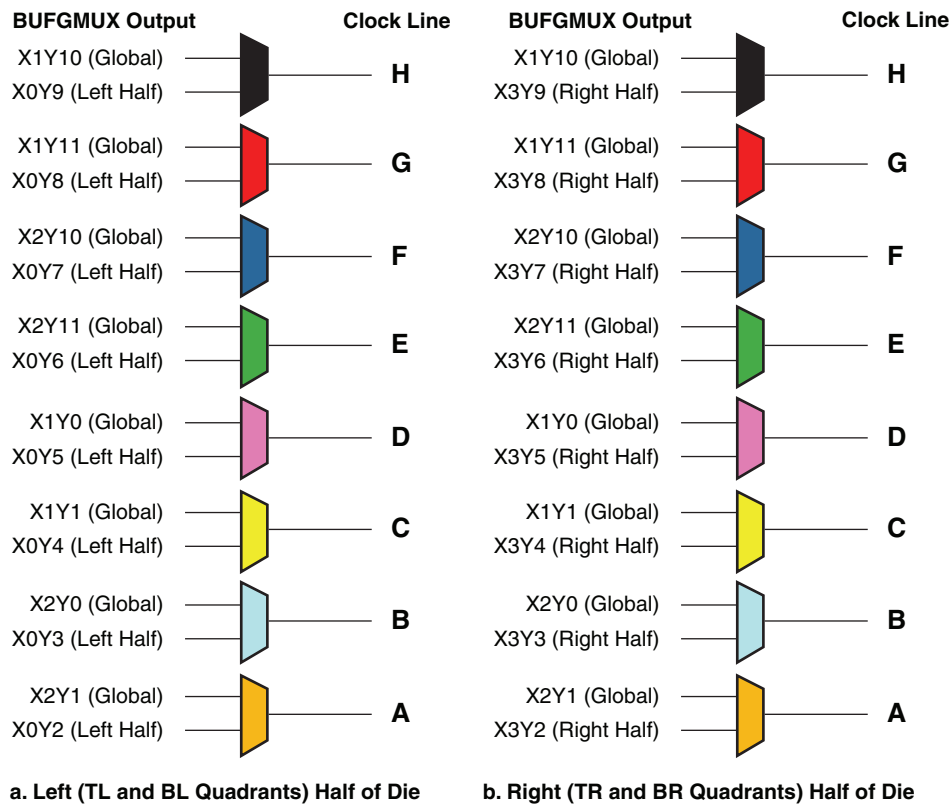

Figure 47: Clock Sources for the Eight Clock Lines within a Clock Quadrant
2. See Figure 45 for specific BUFGMUX locations, and Figure 47 for information on how BUFGMUX elements drive onto a specific clock line within a quadrant.
The clock routing within the FPGA is quadrant-based, as shown in Figure 45. Each clock quadrant supports eight total clock signals, labeled 'A' through 'H' in Table 41 and Figure 47. The clock source for an individual clock line originates either from a global BUFGMUX element along the top and bottom edges or from a BUFGMUX element along the associated edge, as shown in Figure 47. The clock lines feed the synchronous resource elements (CLBs, IOBs, block RAM, multipliers, and DCMs) within the quadrant.
Each of the eight clock signals in a clock quadrant derives either from a global clock signal or a half clock signal. In other words, there are up to 24 total potential clock inputs to the FPGA, eight of which can connect to clocked elements in a single clock quadrant. Figure 47 shows how the clock lines in each quadrant are selected from associated BUFGMUX sources. For example, if quadrant clock 'A' in the bottom left (BL) quadrant originates from BUFGMUX_X2Y1, then the clock signal from BUFGMUX_X0Y2 is unavailable in the bottom left quadrant. However, the top left (TL) quadrant clock 'A' can still solely use the output from either BUFGMUX_X2Y1 or BUFGMUX_X0Y2 as the source.